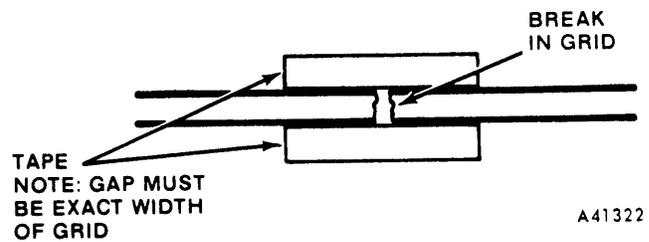

Fig. 3-99 Tailgate Window Defogger Grid Repair
(1) Using suitable marking pencil, mark location of broken or open grid on exterior surface of glass.
(2) Using fine steel wool, lightly rub area to be repaired (inside of tailgate window). Clean area with isopropyl alcohol (rubbing alcohol).
(3) Attach two strips of cellulose tape (inside of tailgate window) above and below break in grid as shown in figure 3-99.
(4) Mix repair coating until uniform in consistency, with silver particles mixed throughout fluid. Apply coating to break in grid with small brush furnished in kit. Apply heavy coat of mixture, extending approximately 1/4 inch on either side of break.
(5) Start engine and press defogger switch. Run engine for one minute. Turn ignition switch OFF.
(6) Apply second heavy coat of mixture to break in grid, extending about 1/4 inch on either side of break.
(7) Start engine and press defogger switch. Run engine until defogger completes cycle (pilot light goes off). Turn ignition switch OFF.
(8) Remove cellulose tape from inside of tailgate window.
(9) Check repaired area for continuity. **Do not touch repaired area.**
(10) Clean pencil markings from exterior surface of glass.